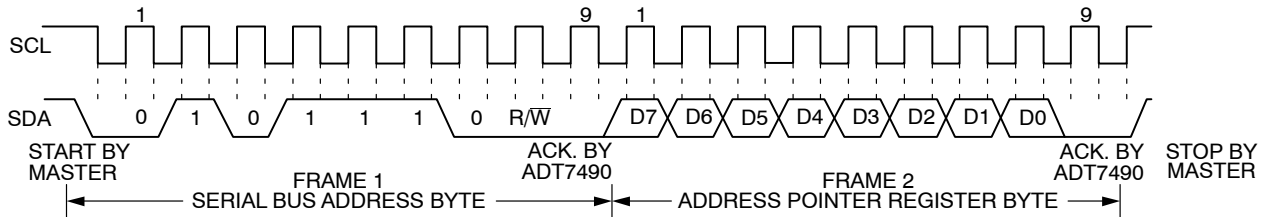
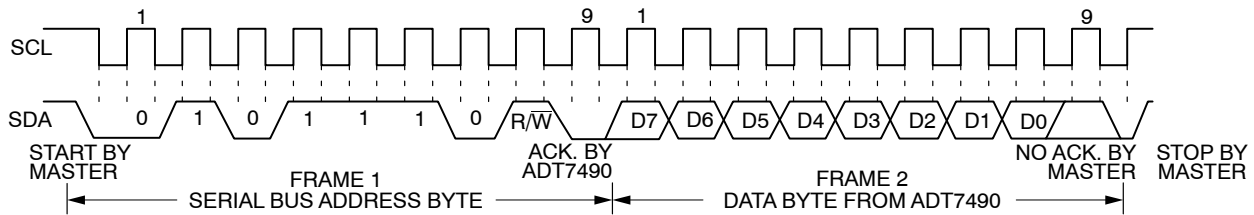

Figure 19. Writing to the Address Pointer Register Only
Figure 20. Reading Data from a Previously Selected Register
1. If the ADT7490 address pointer register value is unknown or not the desired value, it must first be set to the correct value before data can be read from the desired data register. This is done by performing a write to the ADT7490 as before, but only the data byte containing the register address is sent because no data is written to the register. This is shown in Figure 19. A read operation is then performed consisting of the serial bus address, $R/\overline{W}$ bit set to 1, followed by the data byte read from the data register. This is shown in Figure 20.
2. If the address pointer register is known to be already at the desired address, data can be read from the corresponding data register without first writing to the address pointer register, as shown in Figure 20.